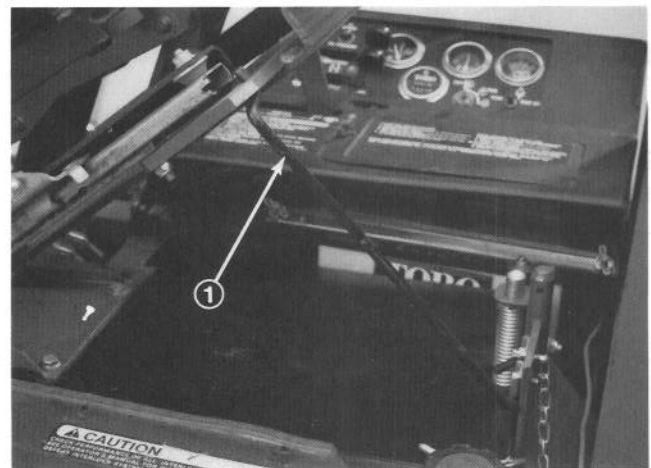

Figure 8
10. Hold seat up with seat support rod (Fig. 8).
12. Hold seat up with seat support rod (Fig. 8).